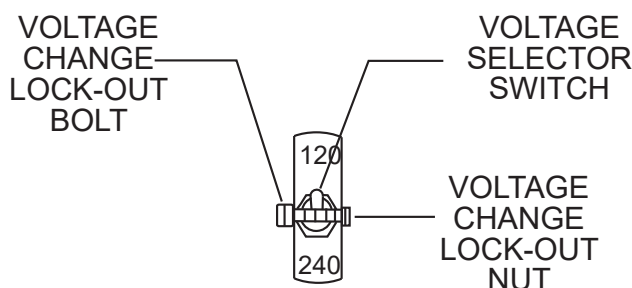

Figure 12. Voltage Change Switch
- Remove the voltage change lockout bolt and nut (Figure 12). Change the position of the voltage change toggle switch from 120 VAC to 240 VAC. The mixer is factory-wired for 120 VAC operation.